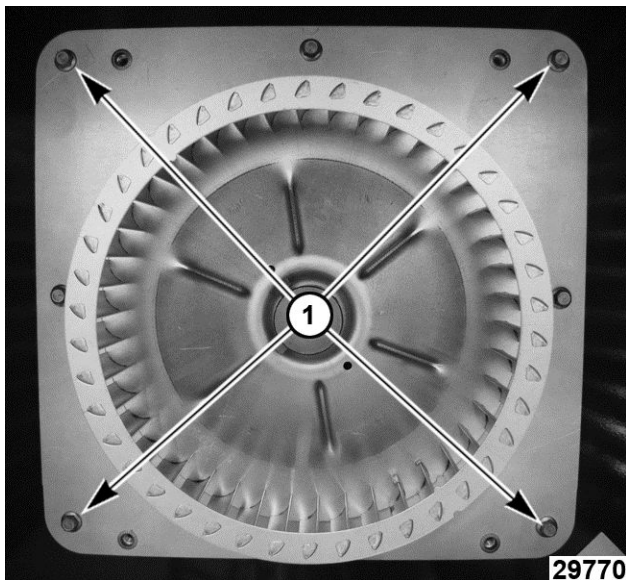

Fig. 24
2. Remove bolts (1, Fig. 24) that secure the motor mounting plate to rear wall.